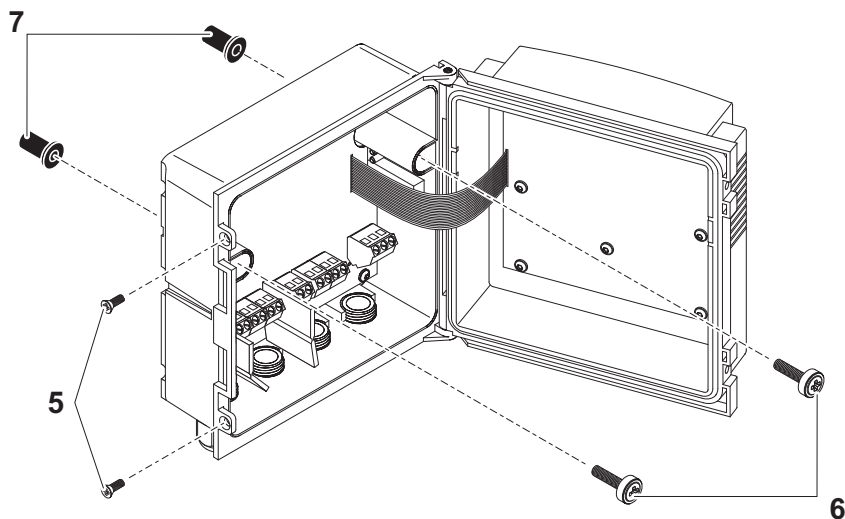

Fig. 3-4 Mounting the sun shield: Premounting the ISO blind nuts
- 2 Remove the two countersunk screws (pos. 5 in Fig. 3-4) and swing open the lid.
- 3 Insert the cheese-head screws (pos. 6 in Fig. 3-4) with the plastic washers in the drilled mounting holes and loosely screw in the ISO blind nuts (pos. 7).
- 4 Position the universal transmitter on the sun shield and fix it into place with the two screws (pos. 6 in Fig. 3-4).
- 5 Close the lid and fix it with the two countersunk screws (pos. 5 in Fig. 3-4).